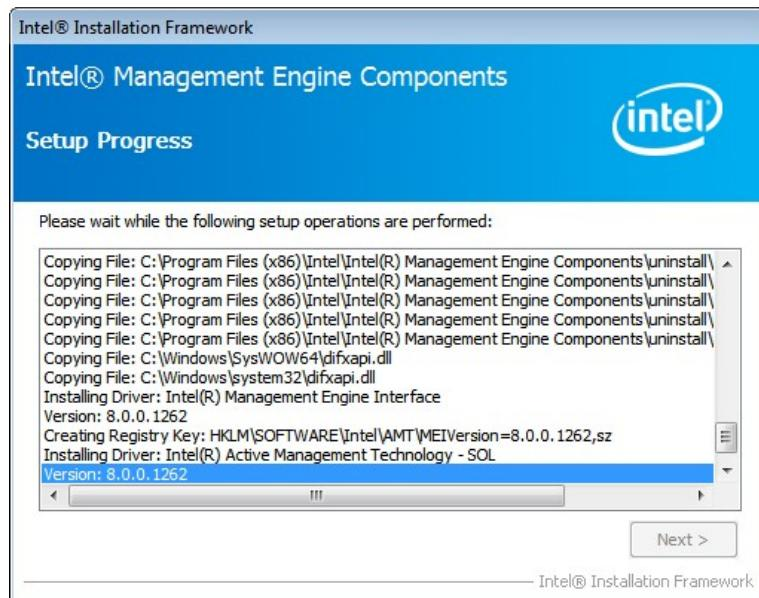

Figure 6-30: Intel® ME Driver Setup Operations
Step 9: Setup Operations are performed as shown in **Figure 6-30**.